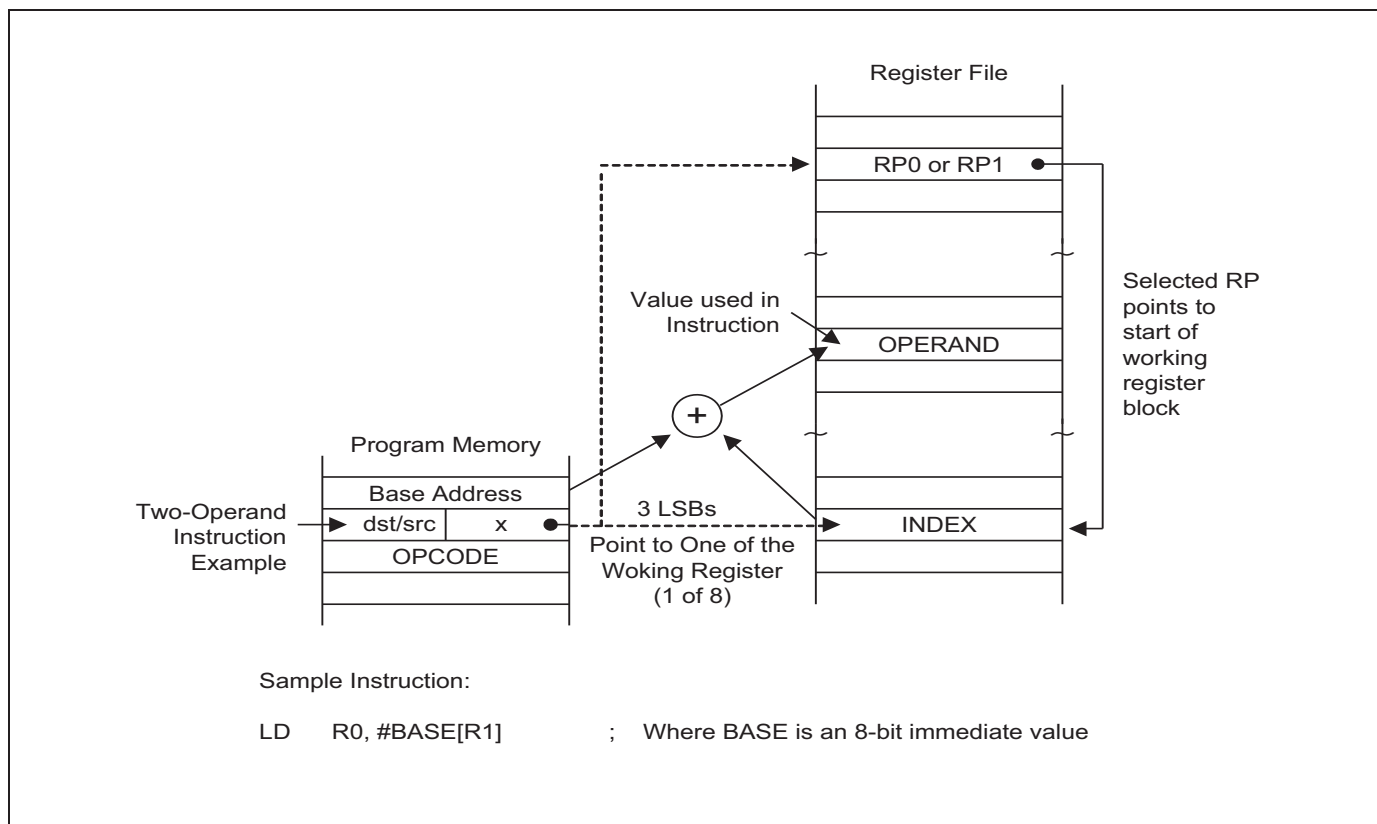

Figure 3-7 Indexed Addressing to Register File
Indexed (X) addressing mode adds an offset value to a base address during instruction execution to calculate the effective operand address (Refer to Figure 3-7 for more information). You can use Indexed addressing mode to access locations in the internal register file or in external memory. Please note, however, that you cannot access locations C0H–FFH in set 1 using Indexed addressing mode.
Figure 3-7 illustrates the indexed addressing to register file.